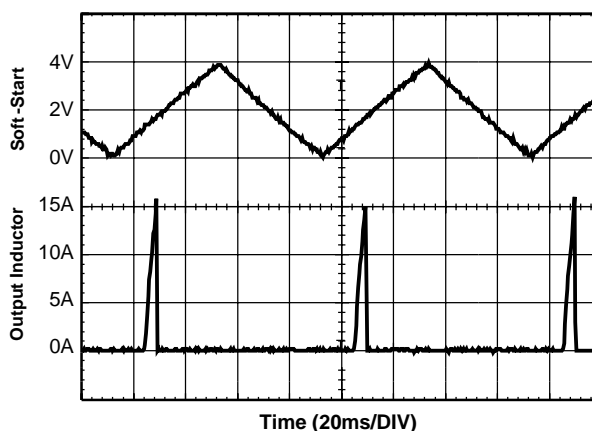

Figure 2. Over-Current Operation
The over-current function protects the converter from a shorted output by using the upper MOSFET’s on-resistance, RDS(ON) to monitor the current. This method enhances the converter’s efficiency and reduces cost by eliminating a current sensing resistor. The over-current function cycles the soft-start function in a hiccup mode to provide fault protection. A resistor (ROCSET) programs the over-current trip level. An internal 200µA current sink develops a voltage across ROCSET that is referenced to VIN. When the voltage across the upper MOSFET (also referenced to VIN) exceeds the voltage across ROCSET, the over-current function initiates a soft-start sequence. The soft-start function discharges CSS with a 10µA current sink and inhibits PWM operation. The soft-start function recharges CSS, and PWM operation resumes with the error amplifier clamped to the SS voltage. Should an overload occur while recharging CSS, the soft start function inhibits PWM operation while fully charging CSS to 4V to complete its cycle. Figure 2 shows this operation with an overload condition. Note that the inductor current increases to over 15A during the CSS charging interval and causes an over-current trip. The converter dissipates very little power with this method. The measured input power for the conditions of Figure 2 is 2.5W.